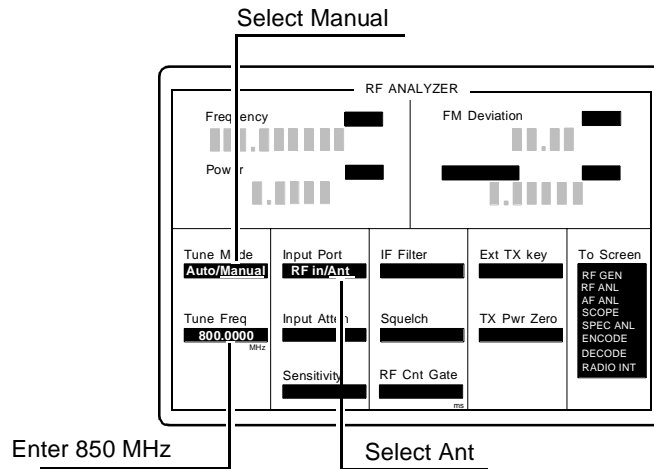

Figure 61
Step 1. Setup the RF Analyzer screen (see figure 61).